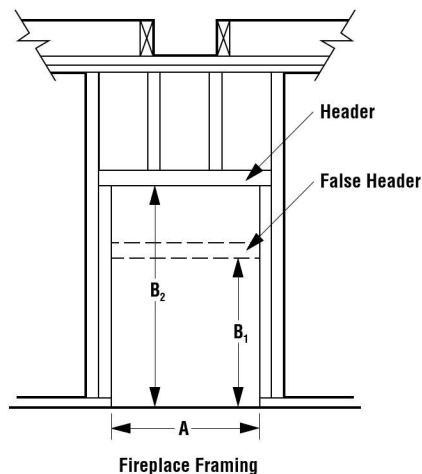

Figure 12
Step 3. Refer to fireplace drawings and specifications on pages 6 and 7 for framing dimensions and details. Frame appliance enclosure as illustrated in *Figures 12 through 15* on page 7.